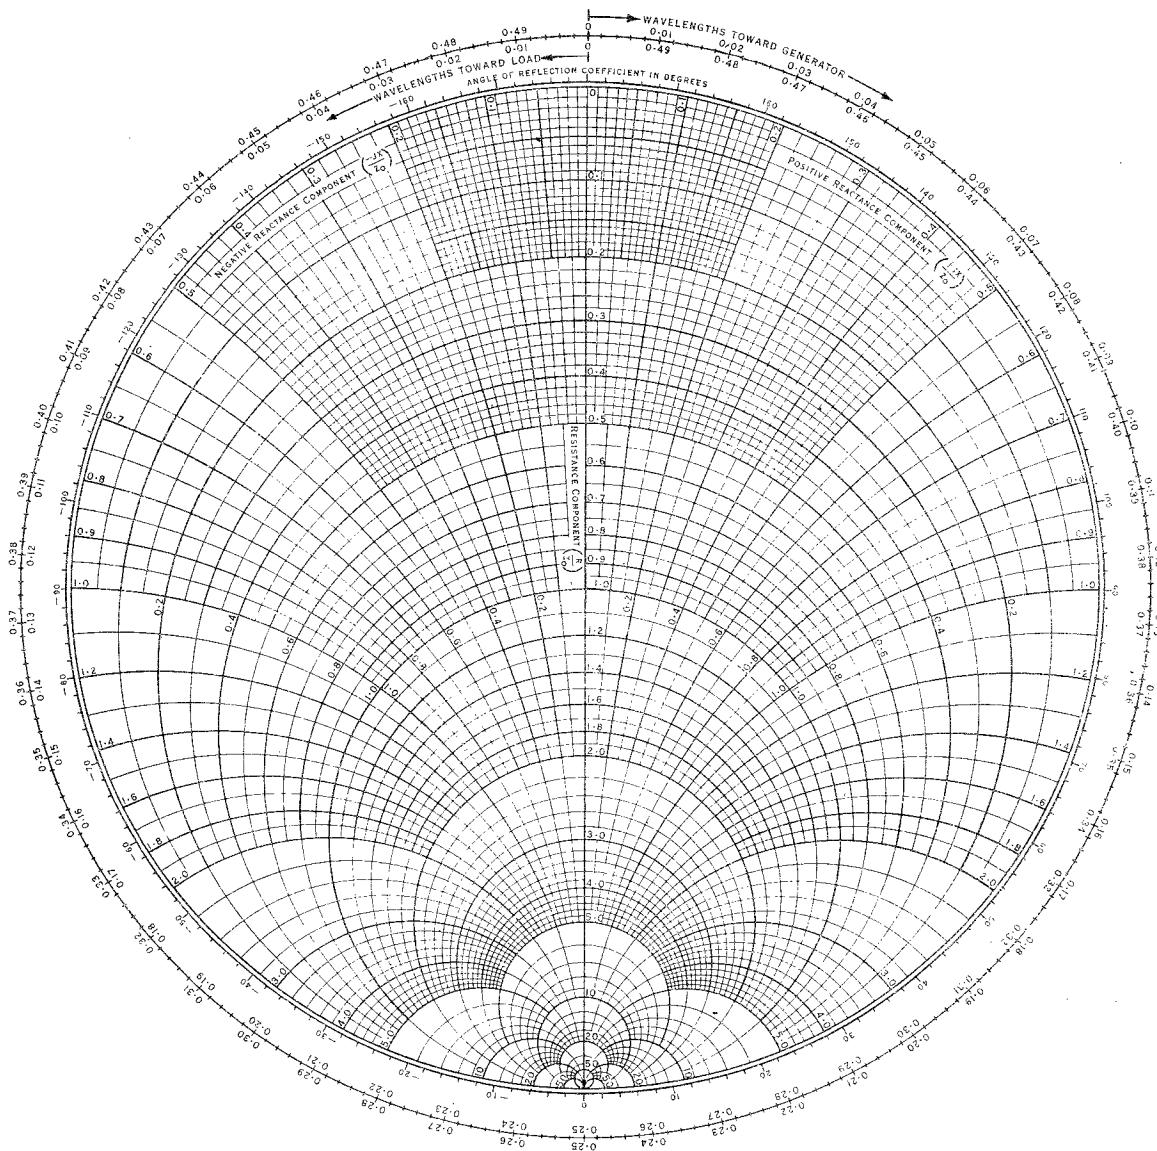

FIG. 1. THE SMITH CHART.
- 1.1 The properties of an R.F. transmission line can be presented graphically in a variety of charts of which the most widely used is the Transmission Line Calculator or Smith Chart (see Fig. 1 on page 2). This chart is useful in H.F. and V.H.F. work, because it eliminates the need for complex mathematical calculations in solving most transmission line problems. It is also used at U.H.F. where electrical measurements must be made indirectly.
2.1 The use of the Smith Chart (Fig. 1) is similar to the use of a graph. The Chart can be considered as a specialized type of graph with curved, rather than rectangular, co-ordinate lines. The co-ordinate system consists basically of two groups of circles, one group for resistance and the other group for reactance.